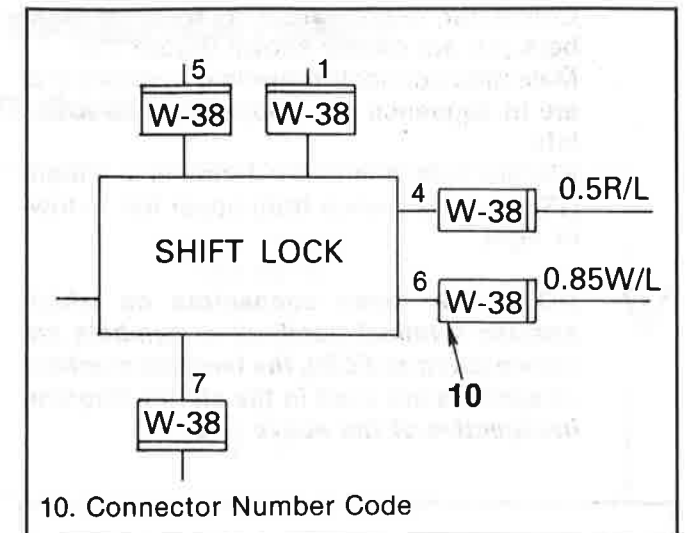

Figure 29. Number Code
A Connector is identified with a number code (10) (figure 29).